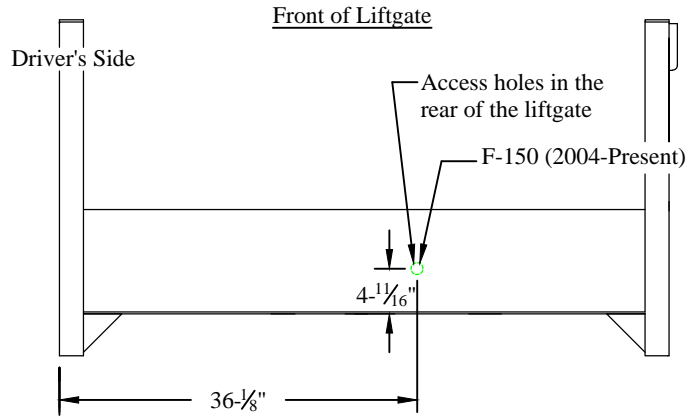

Figure 15: Spare tire access.
2. **Remove** the black plastic plugs for your application (Figure 15).